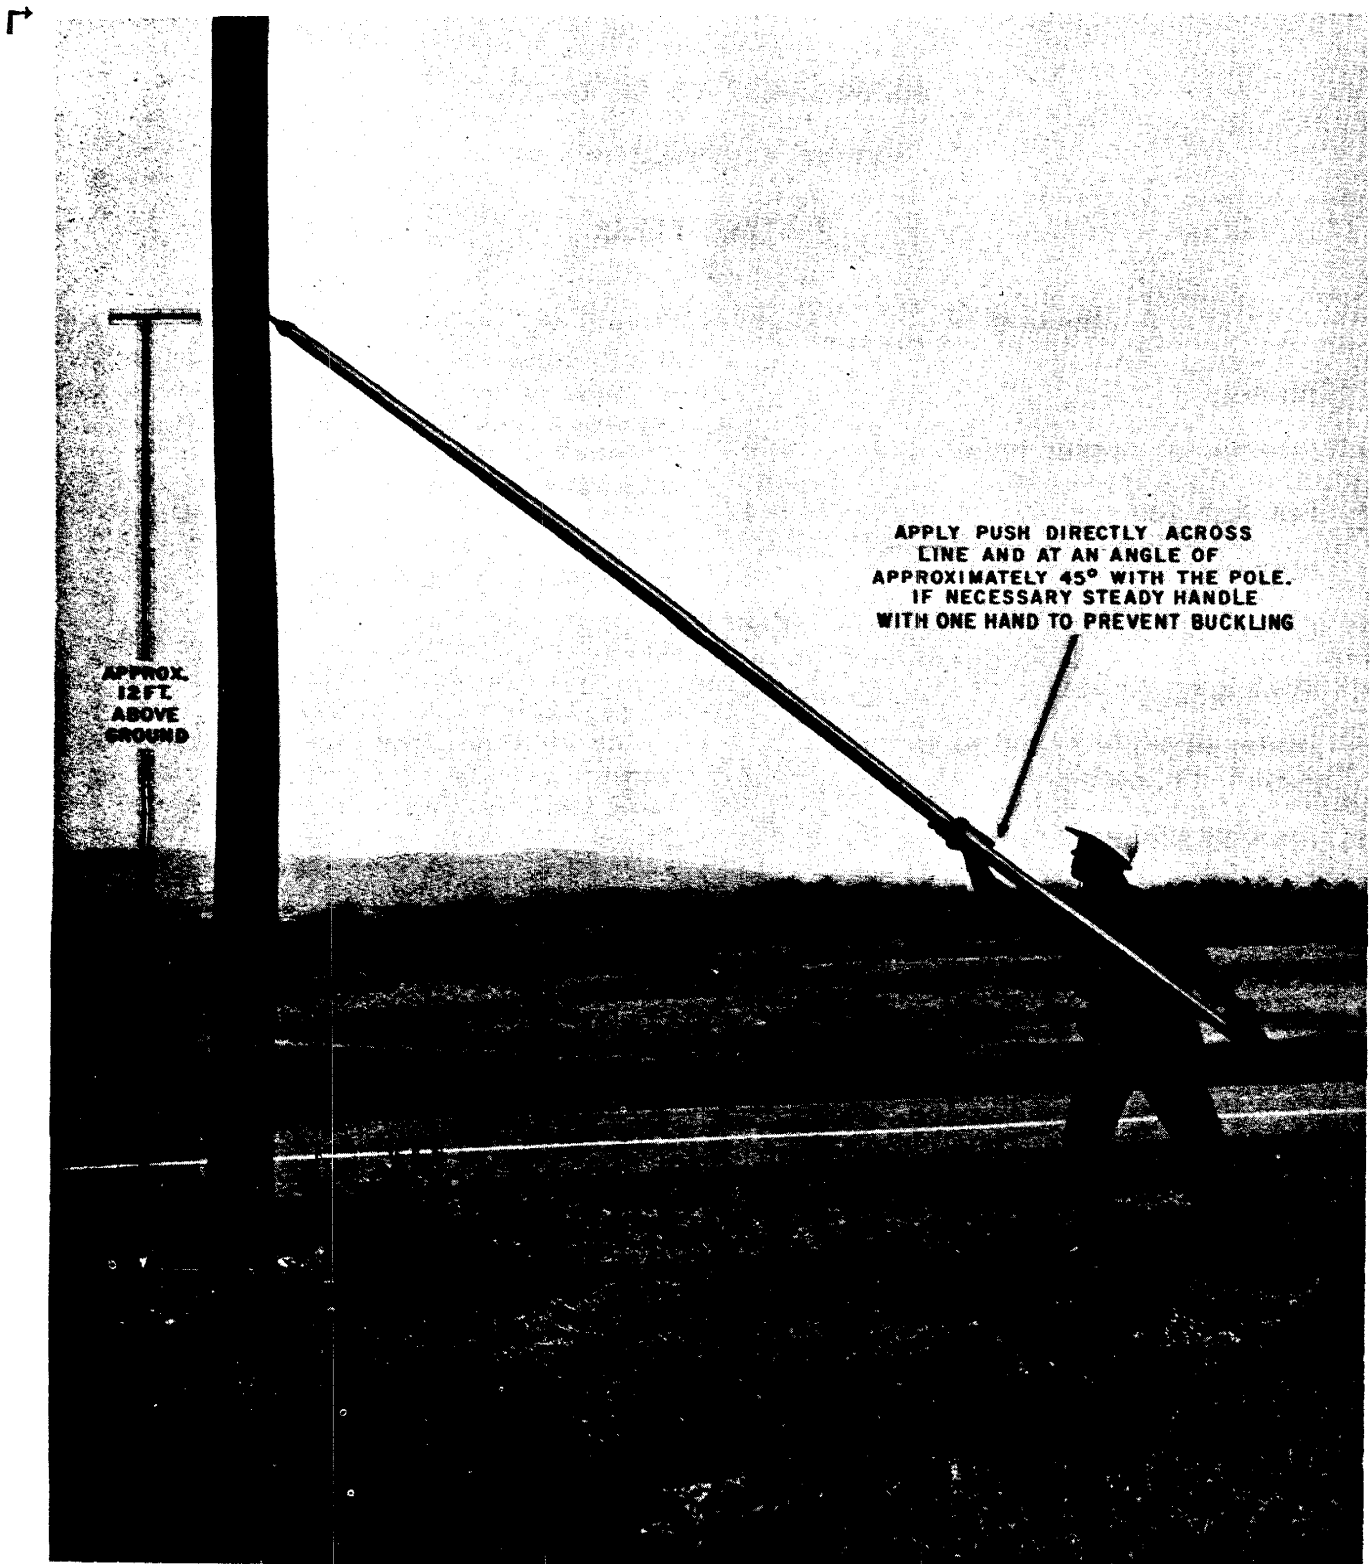

Fig. 1 — Pike Pole Test
**3.01** The pike pole test is applied by making a vigorous effort to rock the pole back and forth in a direction at right angles to that of the line by pushing the pole with a 12-foot or longer pike pole. If practicable, the pike pole should be held at an angle of about  $45^\circ$  ( $\frac{\text{Lead}}{\text{Height}}=1$ ) with the pole, as shown in Fig. 1. If the pole cracks or breaks, the test should be discontinued immediately and the pole should be regarded as unsafe for climbing. The pole should not be rocked so hard as to cause the wires to swing together and thus introduce trouble in the circuits.